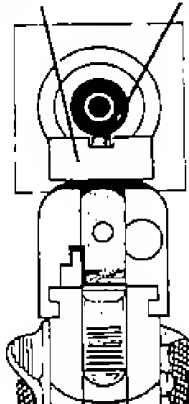

FIGURE 8—AIMING
3. Grasp pistol by stock and, with index finger resting along the outside of trigger guard, take aim. Aim by aligning target with front and rear sights. (See Figure 8) After identifying your target and seeing that it is clear to shoot, focus on the front sight. Be sure you have a safe backstop. **THINK!** What will you **HIT** if you **MISS** the target?